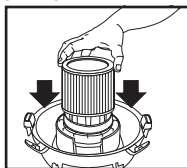

FIGURE 19
39. With the tank cover in an upside down position, slide the cartridge filter down over the lid cage, pushing until the filter seals against the cover. **FIGURE 19.**